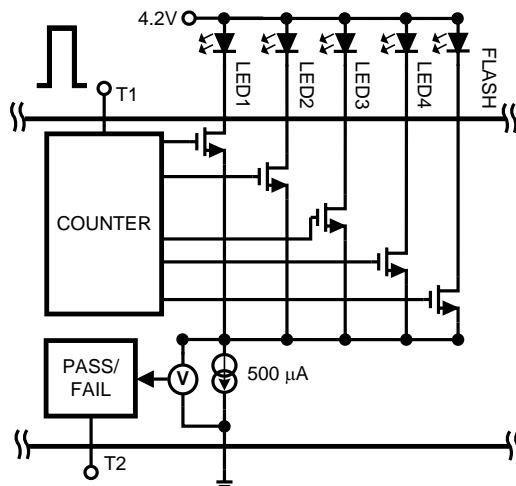

Figure 19. High Level Schematic Representation of the Test Interface
- **Production test 1:** The LP55271 is assembled on a printed wiring board (PWB), but there is no LEDs connected on current sink outputs. An external 4.2V test voltage is supplied on the V_{DD1} and V_{DD2} pins, from which follows that the reset operating mode is entered with POR. Test pin T1 is pulled high. The chip will send an acknowledge “1” onto the T2 pin if the chip is in working order; otherwise T2 stays low (0). Refer to Test Interface Timing Diagram.
- **Production test 2:** The LP55271 is assembled on a PWB with the external components shown in LP55271 Block Diagram. 4.2V voltage is connected to V_{DD1} , V_{DD2} and FB pins (see Figure 19), from which follows that the reset operating mode is entered with POR. Test pin T1 is pulled high. The chip will send an acknowledge “1” onto the T2 pin if the chip is in working order; otherwise T2 stays low (0). If the ACK is “1”, a repetitive test pattern “0-1-0-1-0-1-0-1-0-1-0-1” is applied to T1 pin and if the LED corresponding the pattern (see Test Interface Timing Diagram) is connected properly T2 gives “1”, otherwise T2 stays low. The last “1” disengages the test.